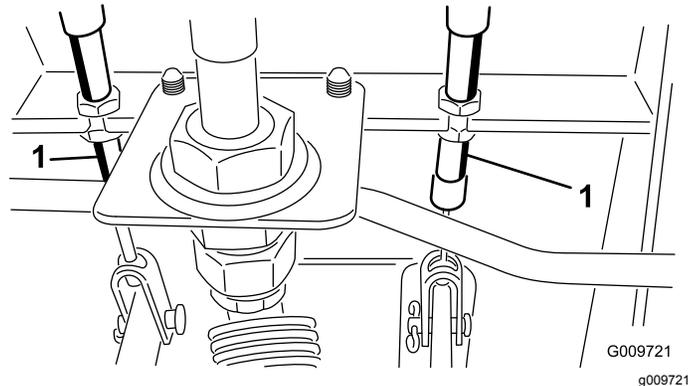

Figure 75
- A. Loosen the front nut on the threaded end of the brake cable (Figure 75).